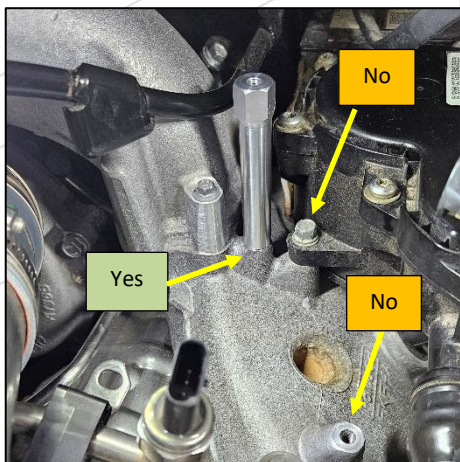

Figure 5: Install the Short Post
- a. If you have the CCV box removed there is another boss right next to it which is incorrect as shown in Figure 5.